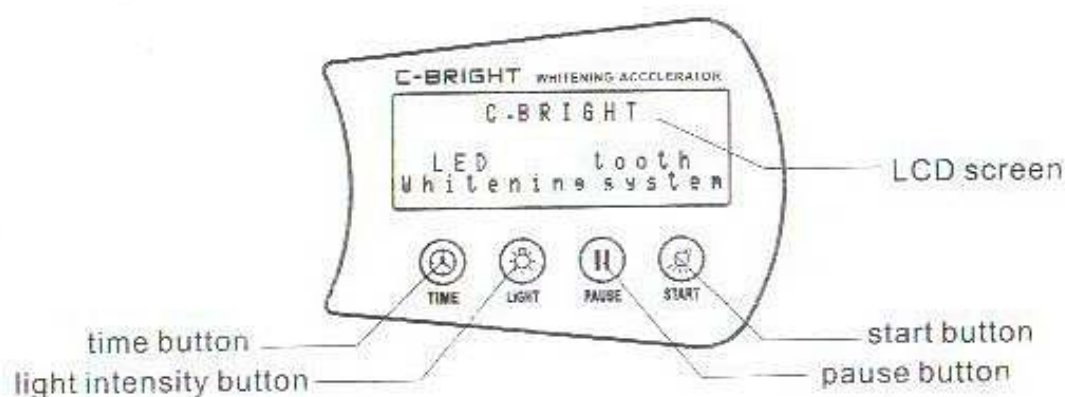

Fig. 1
1. Turn on the main power switch. The screen displays as in Fig.1, unit is in ready status. Beeper emits 2 beeps